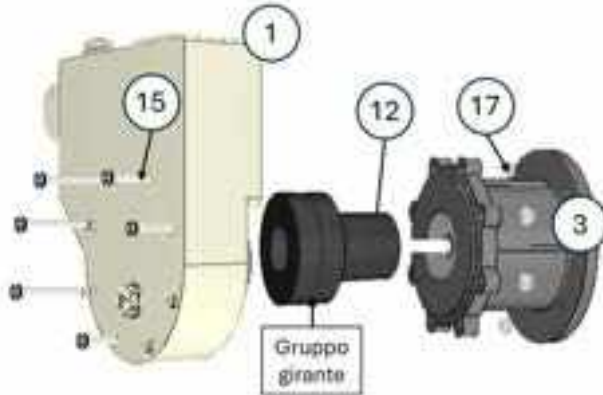
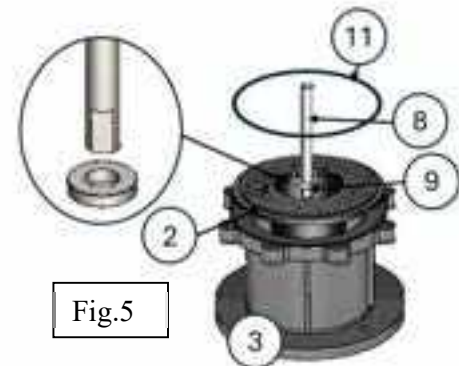

Fig.4
Fig.5
1. Separate the pump casing (1) from the lantern (3), removing the screws (15) from the nuts (17) with their respective washers
2. Slide out the inner magnet (12) with the impeller assembly (Fig.4)
3. Check the shaft (8) and ring (9) for wear
4. Then remove the socket (9) and replace the external O-ring seal (11). (Fig.5)